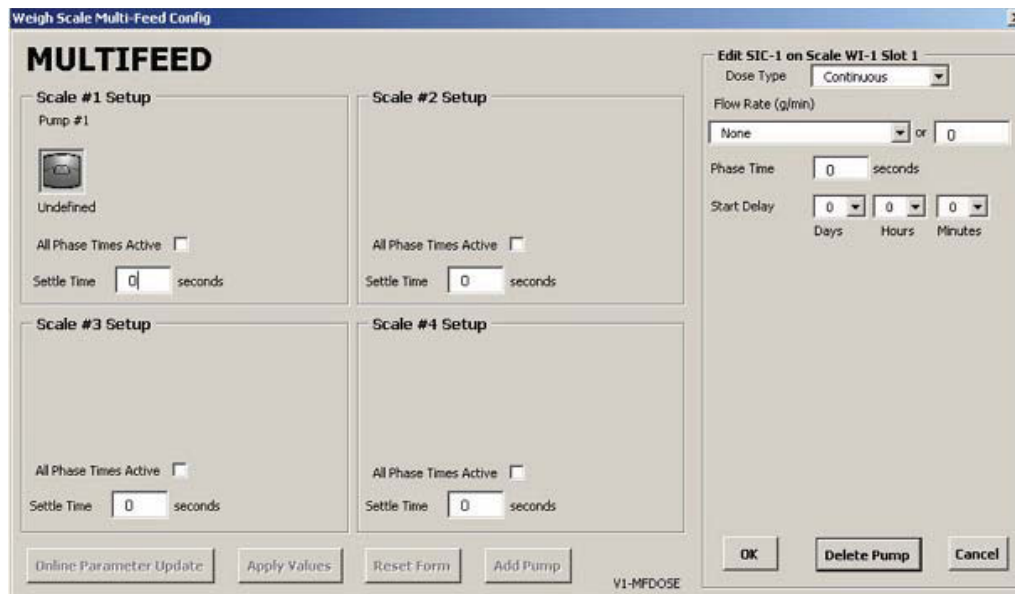

Figure 4.46. MultiFeed menu from Configuration page.
1. Open the MultiFeed menu from the Configuration page (Figure 4.46).